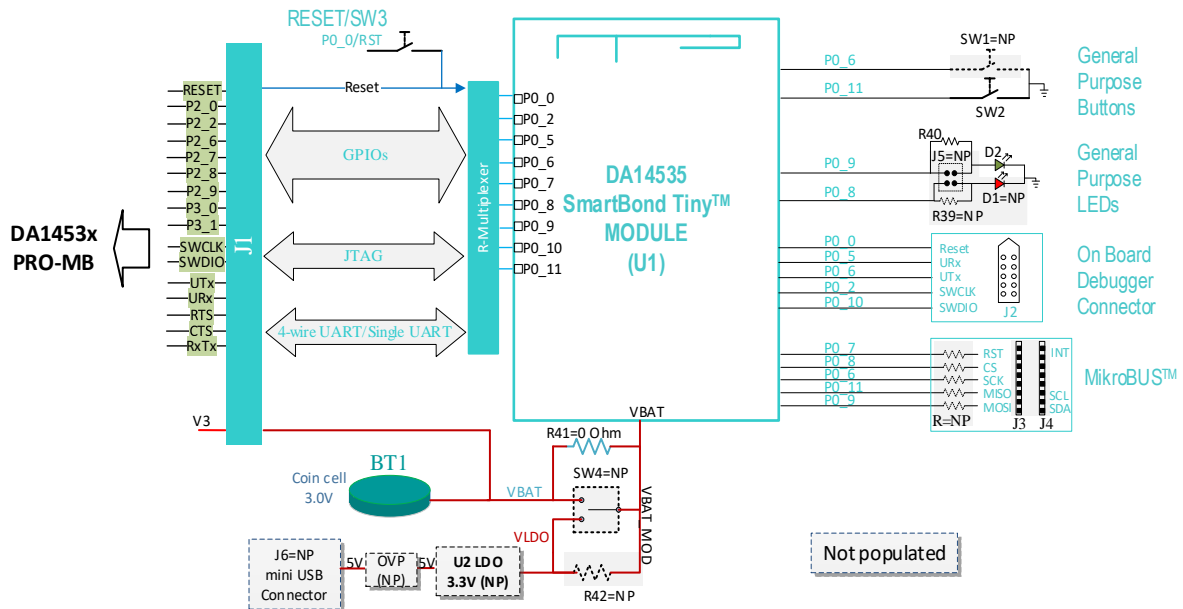
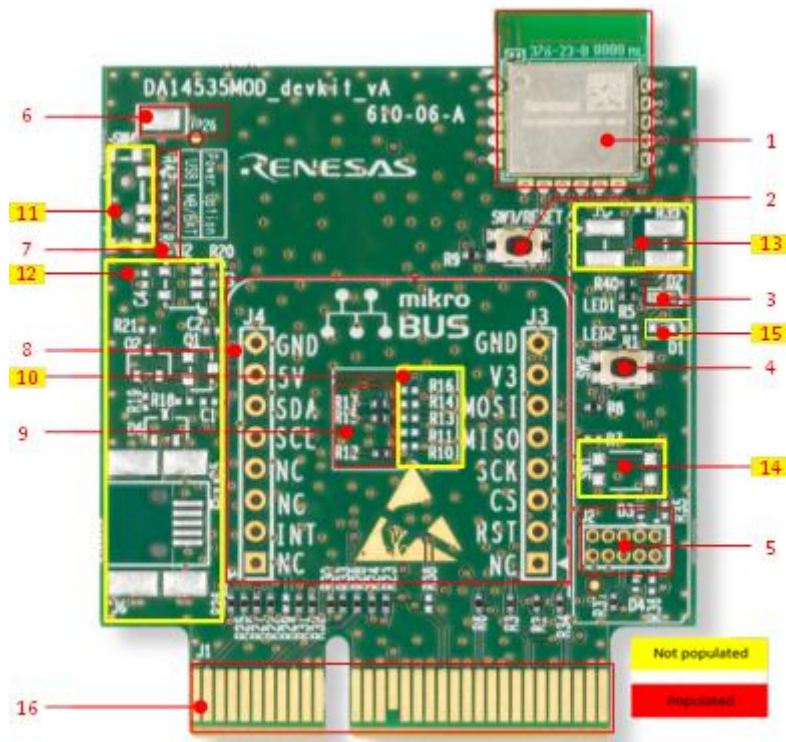
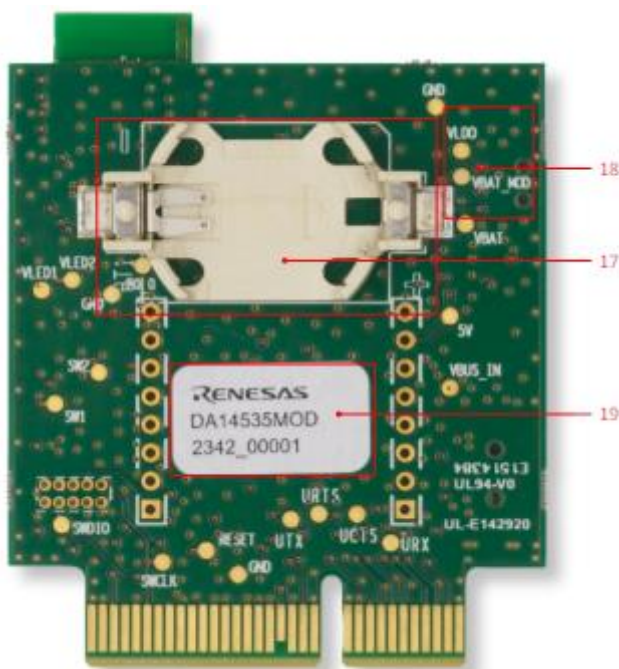

Figure 7. Block diagram of DA14535 SMARTBOND TINY™ MODULE DB
Figure 8. Top side components of DA14535 SMARTBOND TINY™ MODULE DB
Figure 9. Bottom side of DA14535 SMARTBOND TINY™ MODULE DB
The system on DA14535 SMARTBOND TINY™ Daughterboard (DB) consists of the DA14535 Module, the power section, the general purpose LEDs and Buttons, the debugging connector and the MikroBUS™ section. The system block diagram is shown in Figure 7, and the actual component's location in Figure 8 for top side and Figure 9 for bottom side of Daughterboard.